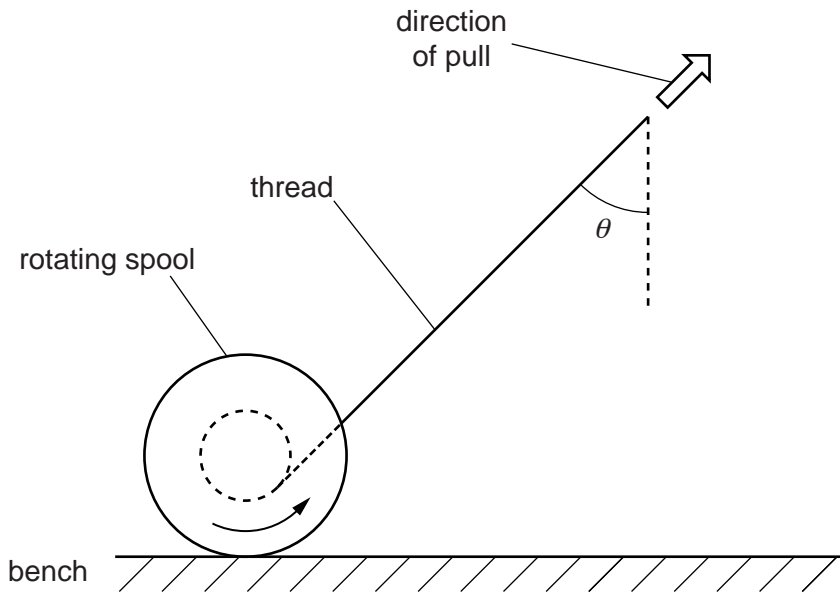

Fig. 2.4
- (iii) The spool will move to the left until the thread reaches a constant angle θ to the vertical with the spool rotating but not moving along the bench, as shown in Fig. 2.4.